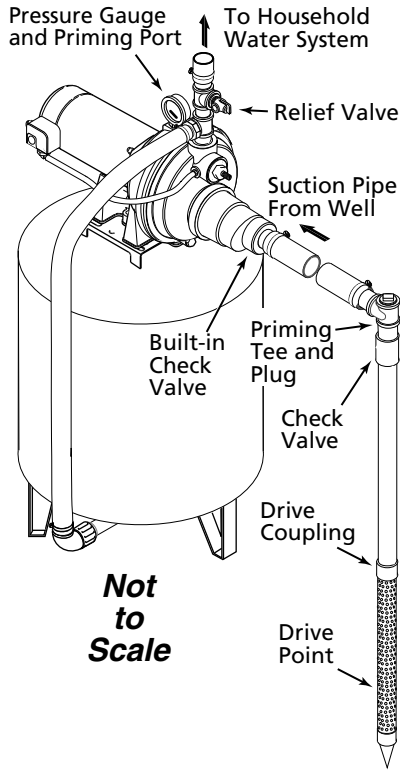

Figure 4 – Driven Point Installation
## New Shallow Well, Driven Point Installation (Figure 4)
4. Use the fewest possible fittings (especially elbows) when connecting the pipe from the well point to the pump suction port. The suction pipe should be at least as large as the suction port on the pump (include a check valve – See Figure 4). Support the pipe so that there are no dips or sags in the pipe, so it doesn’t strain the pump body, and so that it slopes slightly upward from the well to the pump (high spots can cause air pockets which can air lock the pump). Seal the suction pipe joints with teflon tape or pipe joint compound approved for use on PVC. Joints must be air- and water-tight. If the suction pipe can suck air, the pump cannot pull water from the well. If one well point does not supply enough water, consider connecting two or three well points to one suction pipe.